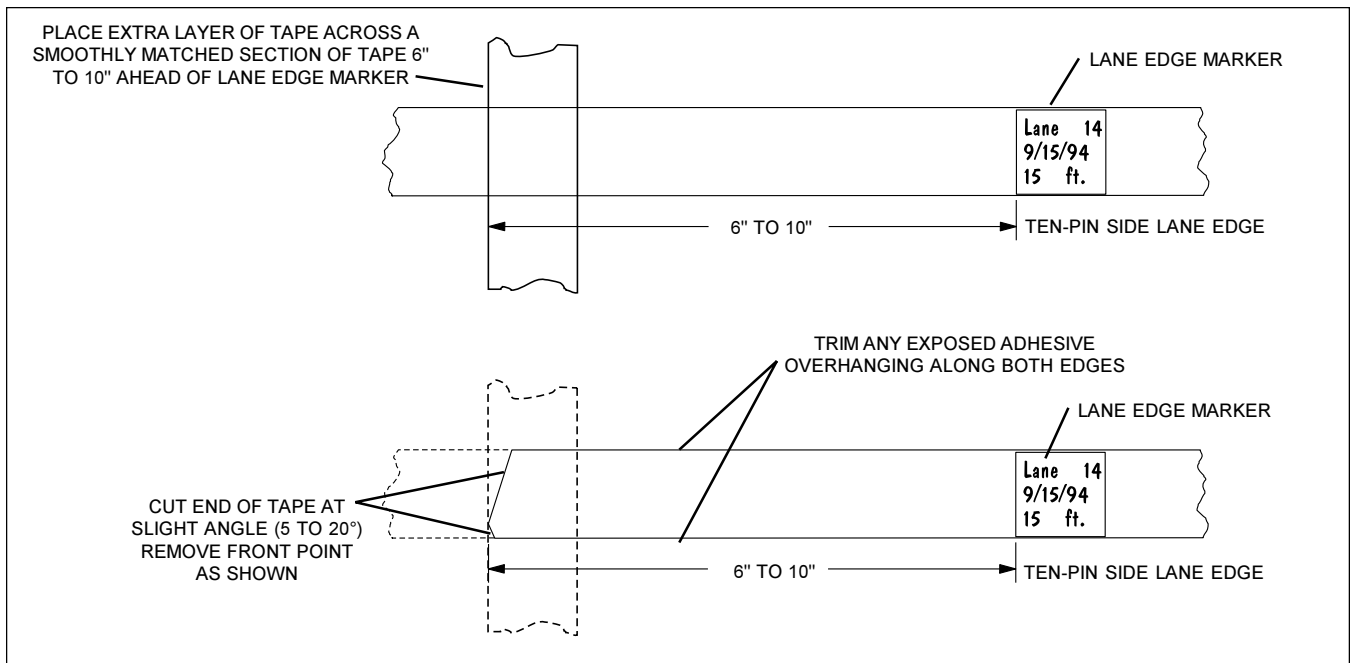

Figure 11 - Preparing Tape Leader Portion
- b. It is recommended that an extra layer of 1" wide transparent tape (Brunswick part no. 11-900070-000) be placed across the end of the tape sample as shown in Figure 11. The cross direction of this extra layer helps to stiffen the end of the tape from its natural curl.
- c. Cut the end of the tape sample as shown in Figure 11 to create a good tape leader.
- c. Knead the overlap firmly so the assembly will stay together during use. Trim the end off 6" from the lane edge marker as shown in Figure 11. Trim the overhanging edges of exposed adhesive.